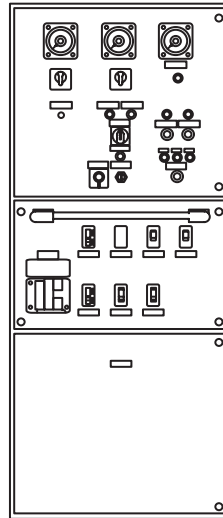

Figure 15. Emergency Switchboard
- o. Emergency switchboard (figure 15), located in the emergency diesel generator room.